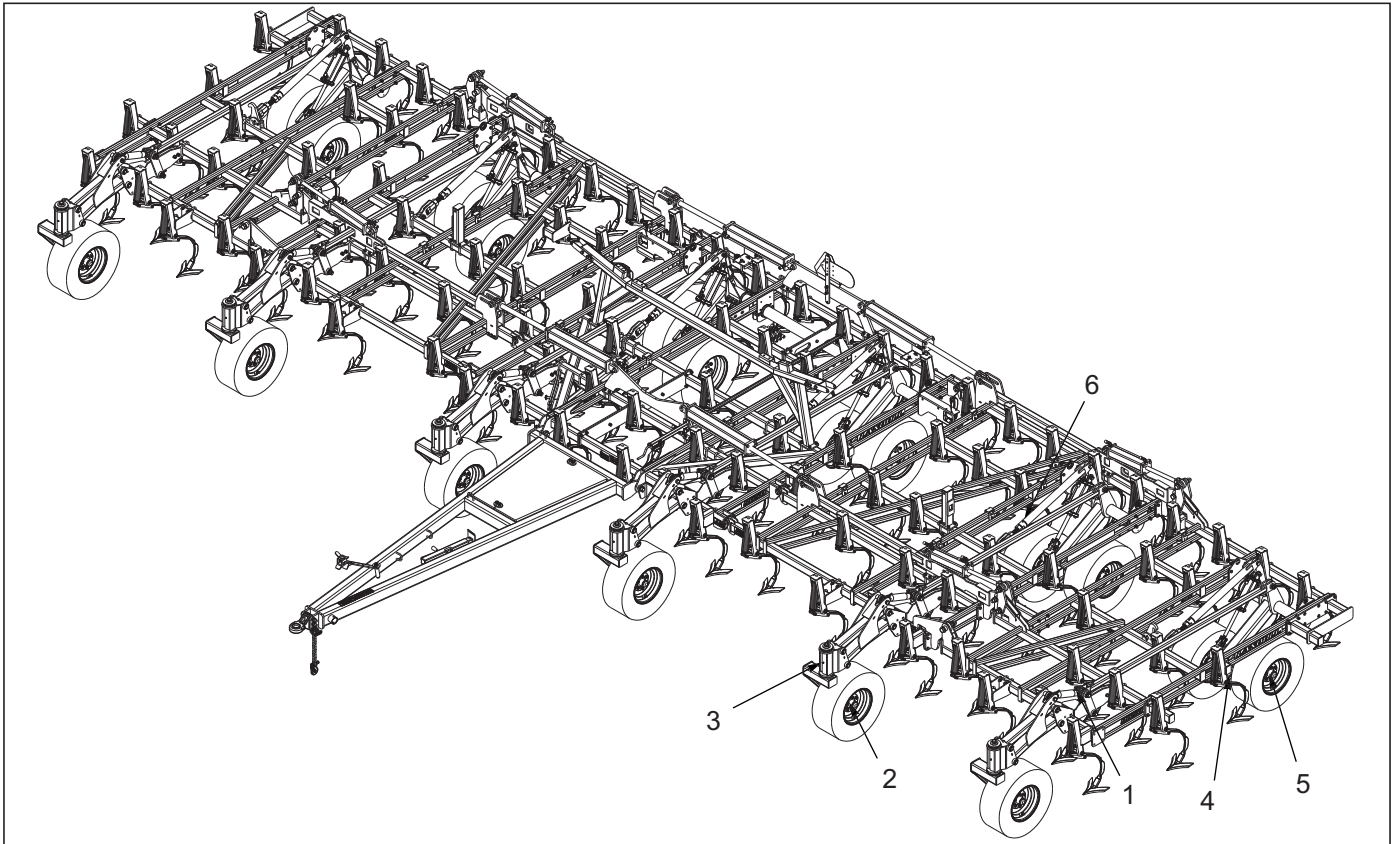

Figure 5-3: Lubrication Points
1. A proper maintenance schedule will insure a long operating life and peak performance. Performing the following lubrication will ensure maximum operating life of the Field Cultivator *See Table 5-1 and See Figure 5-3.*